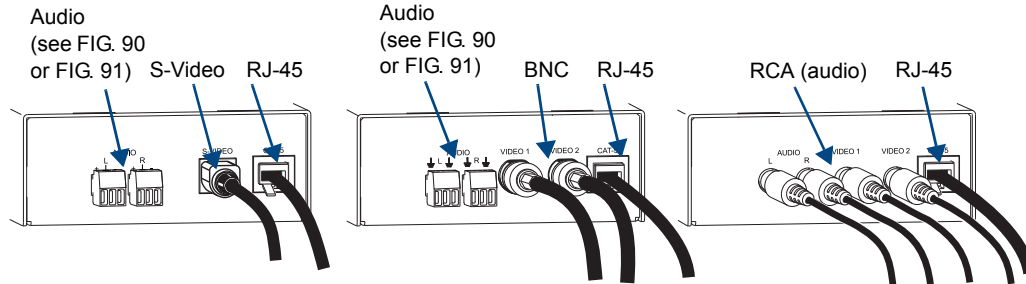

**FIG. 88** Insert RJ-45 connector into RJ-45 receptacle
2. Insert the RJ-45 cable connectors into the input and output RJ-45 receptacles (FIG. 88).